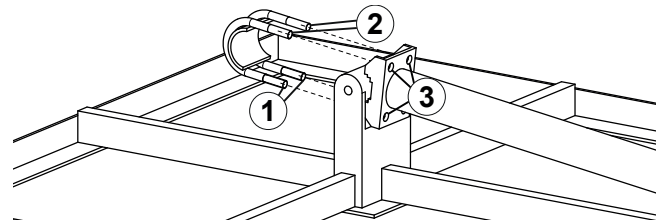

Fig. 3: Inserting the U-bolt Construction
4. Insert the twinned U-bolt construction with the threads (① and ② in Fig. 3) into the openings in the mast foot (③).